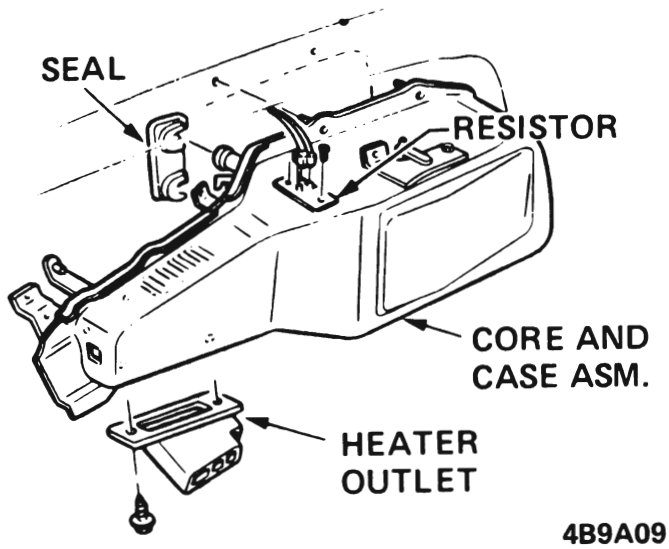

Figure 9A-14 Heater Core and Case
7. Pull core and case assembly from dash. See Figure 9A-14.